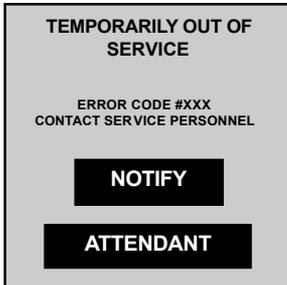

Fig. 7-1. The ‘Out of Service’ screen is displayed if the terminal detects an error condition.
An error detected during a status check will place the ATM in an ‘Out of Service’ mode of operation and display an error message screen, as shown in Figure 7-1.
4. If the Out of Service screen (Figure 7-1) appears again, look up the error code in Table 8-1 (pages 8-5 through 8-7), Error Codes / Recovery Procedures. Note the reference number for the recommended Error Recovery Procedure.